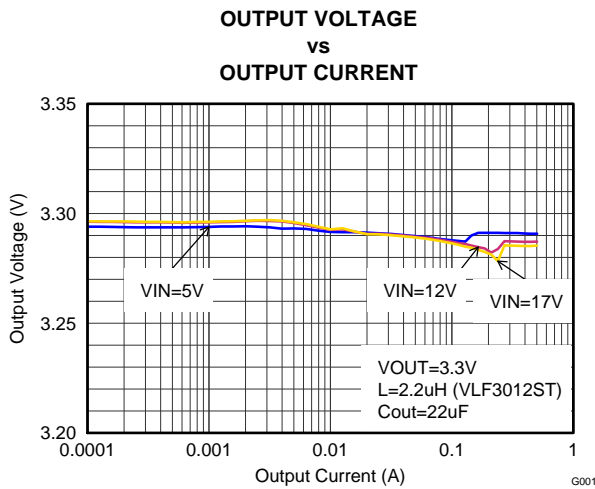
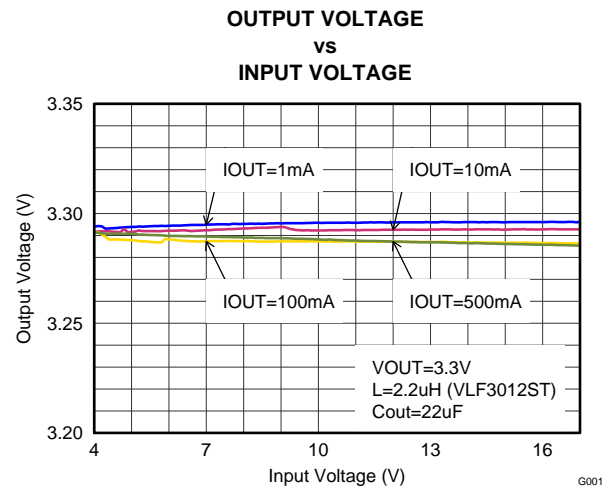

Figure 13. Output Voltage Accuracy (Load Regulation)
Figure 14. Output Voltage Accuracy (Line Regulation)
- (1) The device is still functional down to Under Voltage Lockout (see parameter  $V_{UVLO}$ ).
- (2) Current into  $V_{IN}$  pin.
- (3) This is the static current limit. It can be temporarily higher in applications due to internal propagation delay (see Current Limit And Short Circuit Protection).
- (4) This is the voltage regulated at the FB pin.
- (5) This is the accuracy provided by the device itself (line and load regulation effects are not included). For fixed voltage versions, the (internal) resistive feedback divider is included.
- (6) Line and load regulation are depending on external component selection and layout (see Figure 13 and Figure 14).